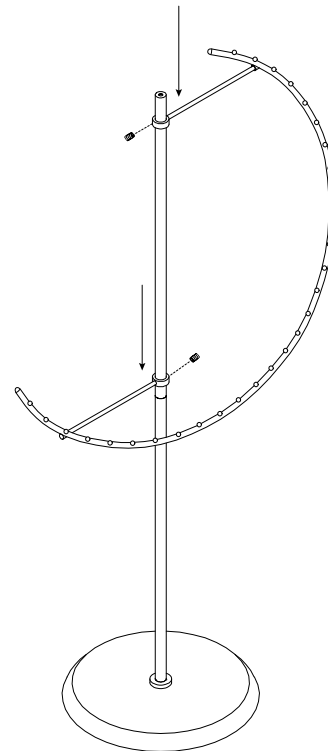

Figure 4
4. Unscrew two headless screws from ringed end of spacers. Slide spacers and spiral tube over top post. Secure headless screws using small Allen wrench. (See Figure 4)